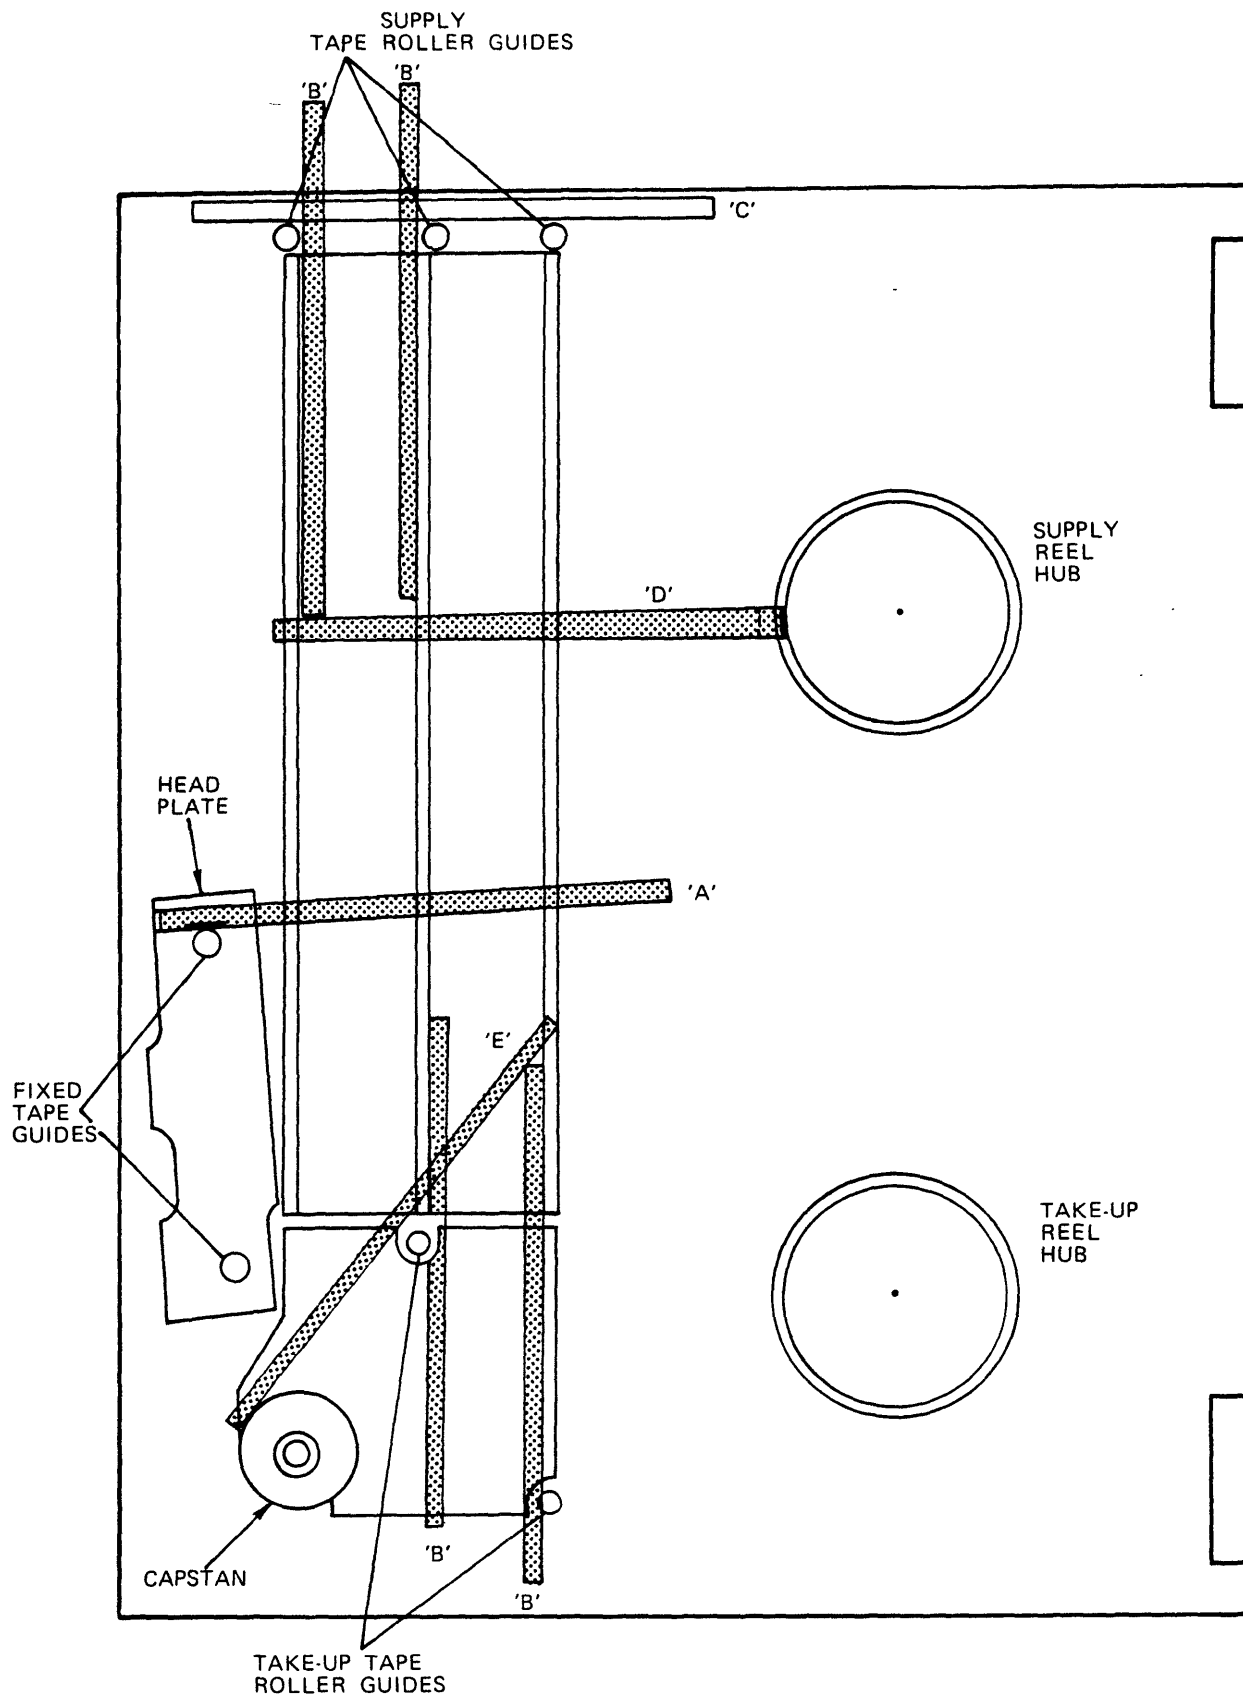

Figure 5-9. Tape Path Alignment Tool Positioning
- d. Place the flat edge of the alignment tool across the top edge of the vacuum column so that the tool edge extends across the top of the fixed guide. Refer to figures 5-9(A) and 5-10. Hold tool firmly in place.
The following tape guide roller adjustment procedure applies to both the supply and take-up guide roller assemblies. Refer to figure 5-9(B) and 5-11 for alignment tool positioning.
- h. To align the right outside tape guide roller, lay the flat side of the alignment tool across the three rollers at the top of the vacuum column as shown in figure 5-9(C). All three rollers should turn as the alignment tool is moved across them. If not, adjust the roller block position until the correct alignment is achieved.
- d. Position the alignment tool against the reel hub edge as shown in figure 5-9(D). The L-shaped edge of the alignment tool and the edges of the reel hub should just touch as the reel hub is rotated.
- d. Figure 5-9(E) shows how to position the alignment tool. Position the alignment tool over the vacuum column and against the capstan. The capstan should be flush against the 0.0215 inch edge of the alignment tool.